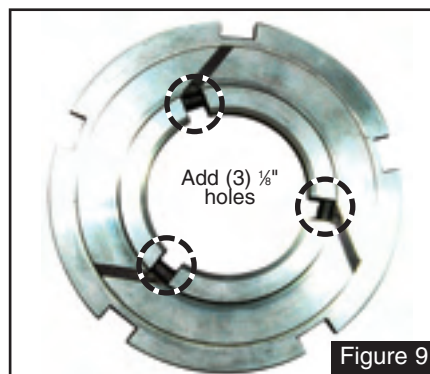

Figure 9
- h. Add three $\frac{1}{8}$ " holes on the stator cap for improved oil flow (see Figure 9). Some OE castings have this feature, some do not.